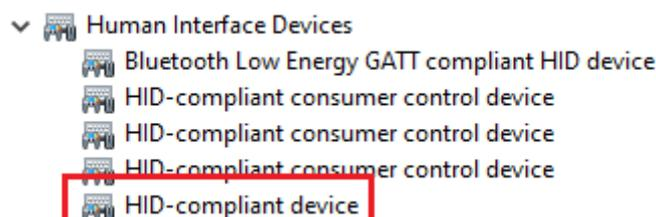

Figure 3-1
- (5) Supported Operating system:
- (6) Apply the following interface modes:
- The HY10000-WK08D's USB Port driver uses the Windows standard **"HID-compliant device"**(Figure 3-1), so there is no need to install another USB driver.